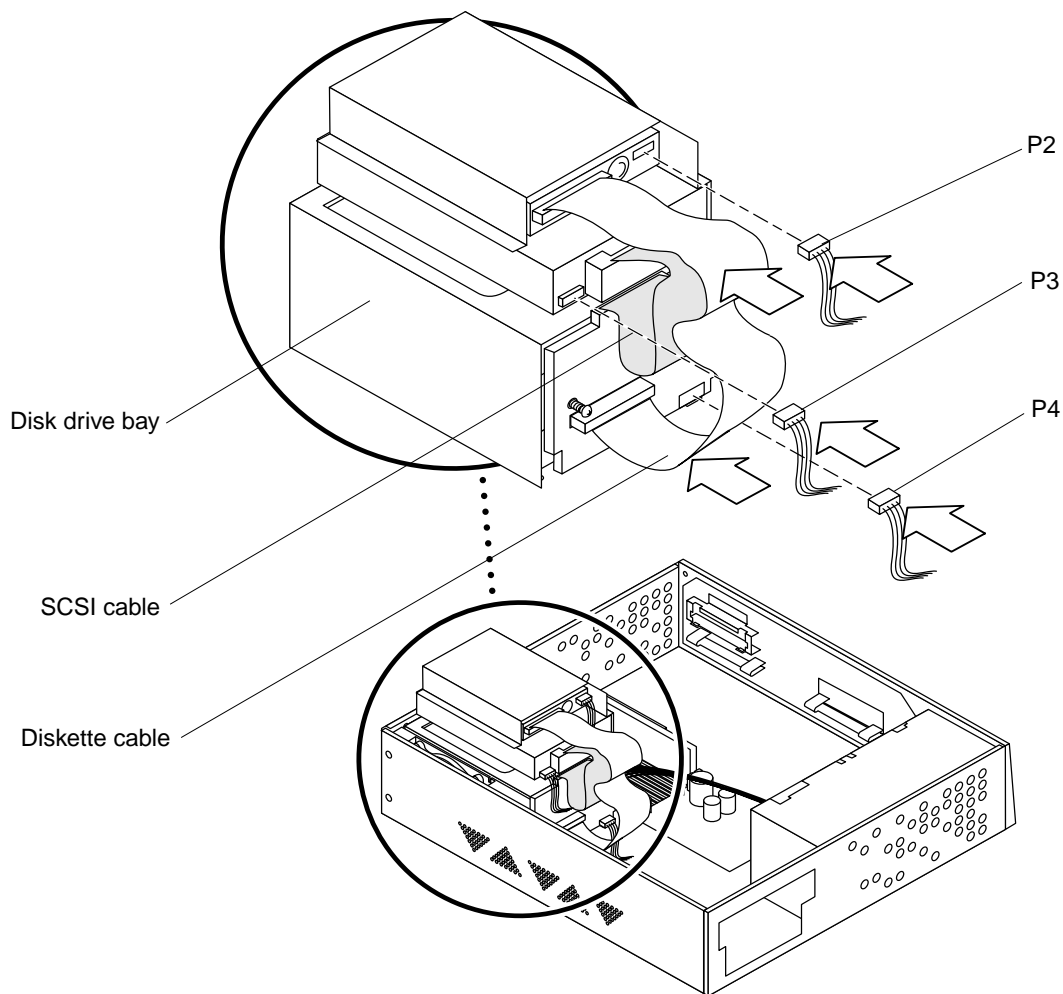

FIGURE 9-7 Connecting Cables to the CD-ROM Drive, 4-mm/8-mm Tape Drive, and Diskette Drive
1. Place the chassis bracket on top of the disk drive bay and connect the following to the chassis bracket if present (FIGURE 9-7):